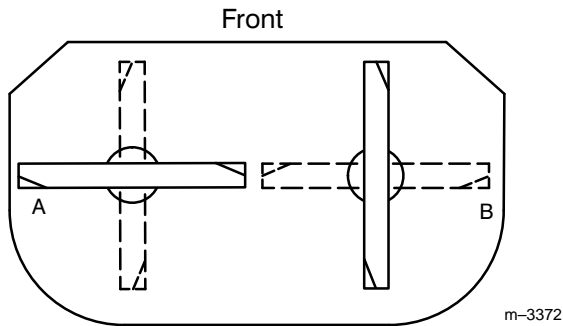

Figure 63
2. Position the blades side-to-side (Fig. 63). Measure at “A” and “B” locations (Fig. 63) from a level surface to the cutting edge of blade tips (Fig.64).